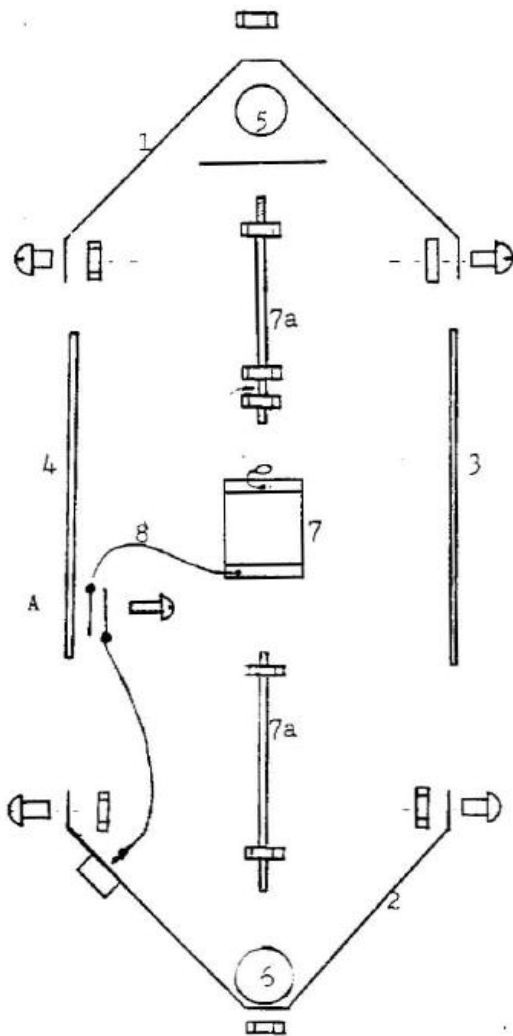
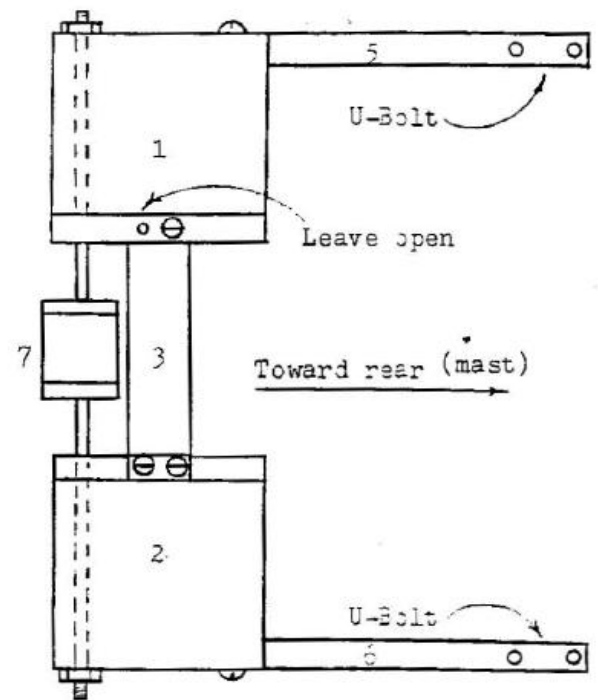

Figure 1
Figure 2
1. Bolt the Top Plate (1) to the Top Support (5). Use 1 1/2" x 1/4" machine bolt through the rear hole. Leave the front hole open (see figs. 1 & 2, Pg. 6)
2. Bolt the Bottom Plate (2) to the Bottom Support (6). Use a 1 1/2" x 1/4" machine bolt through the rear hole. Leave the front hole open.
3. Bolt both Acrylic Insulators . (3 & 4) to the Top Plate (1). Use three 3/4" x 1/4" machine bolts and nuts. Leave a hole open toward the front of the antenna opposite the side of the connector. The small threaded holes in the Acrylic Insulators should be placed away from the Top Plate. (see fig. 2, pg. 6)
4. Bolt the Bottom Plate (2) to the opposite ends of the Acrylic Insulators (3 & 4) using four 3/4" x 1/4" machine bolts.
5. Thread four stop nuts onto the ends of the Coil Support Rods (7a). There should be one stop nut on each end. (see fig. 1, pg. 6)
7. Slip one end of the second Coil Support Rod through the wire eye at the top of the Coil. Thread a second stop nut onto the end of this Coil Support Rod to secure the wire eye. Thread this Coil Support Rod into the top of the Coil and tighten (at least 3/4" in). Then tighten the second nut to secure the wire eye. (see fig. 1 pg. 6)
10. Slip the small wire eye from both lead wires coming from the Coil and connector onto the 8/32 x 1/2" machine screw and thread the screw into the hole in the nearest Acrylic Insulator. (see fig. 1, pg. 5) Tighten securely.